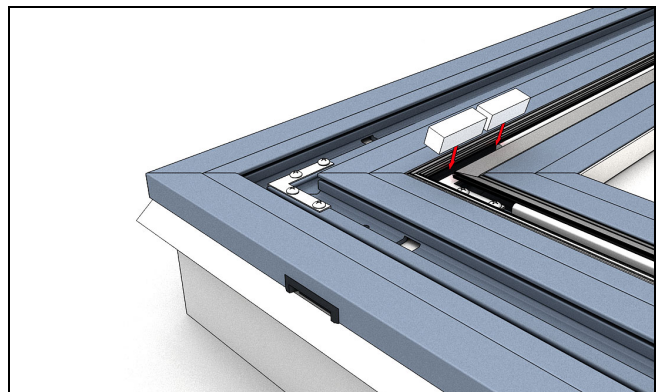

Figure 25
5. Install two foam blocks on the inactive side miter underneath the sill bulb weather strip. See Figure 25.